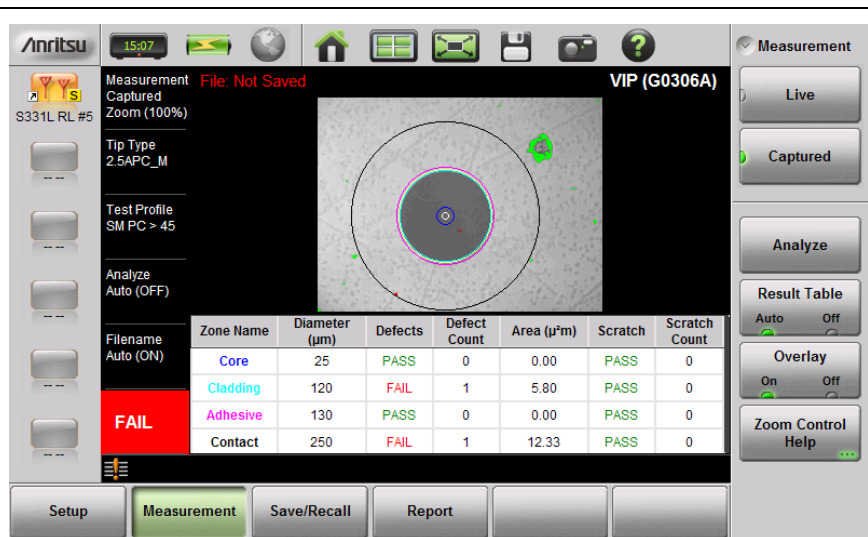

Figure 12-6. VIP Image Captured and Analyzed
- Press the **Results Table** submenu key to show or hide the detailed analysis results. See Figure 12-6. For each of the analysis areas, or zones (core, cladding, adhesive, contact), the table shows the count of scratches and contaminations or defects, and their Pass/Fail evaluation results. The table will not appear if there are no analysis results to display.